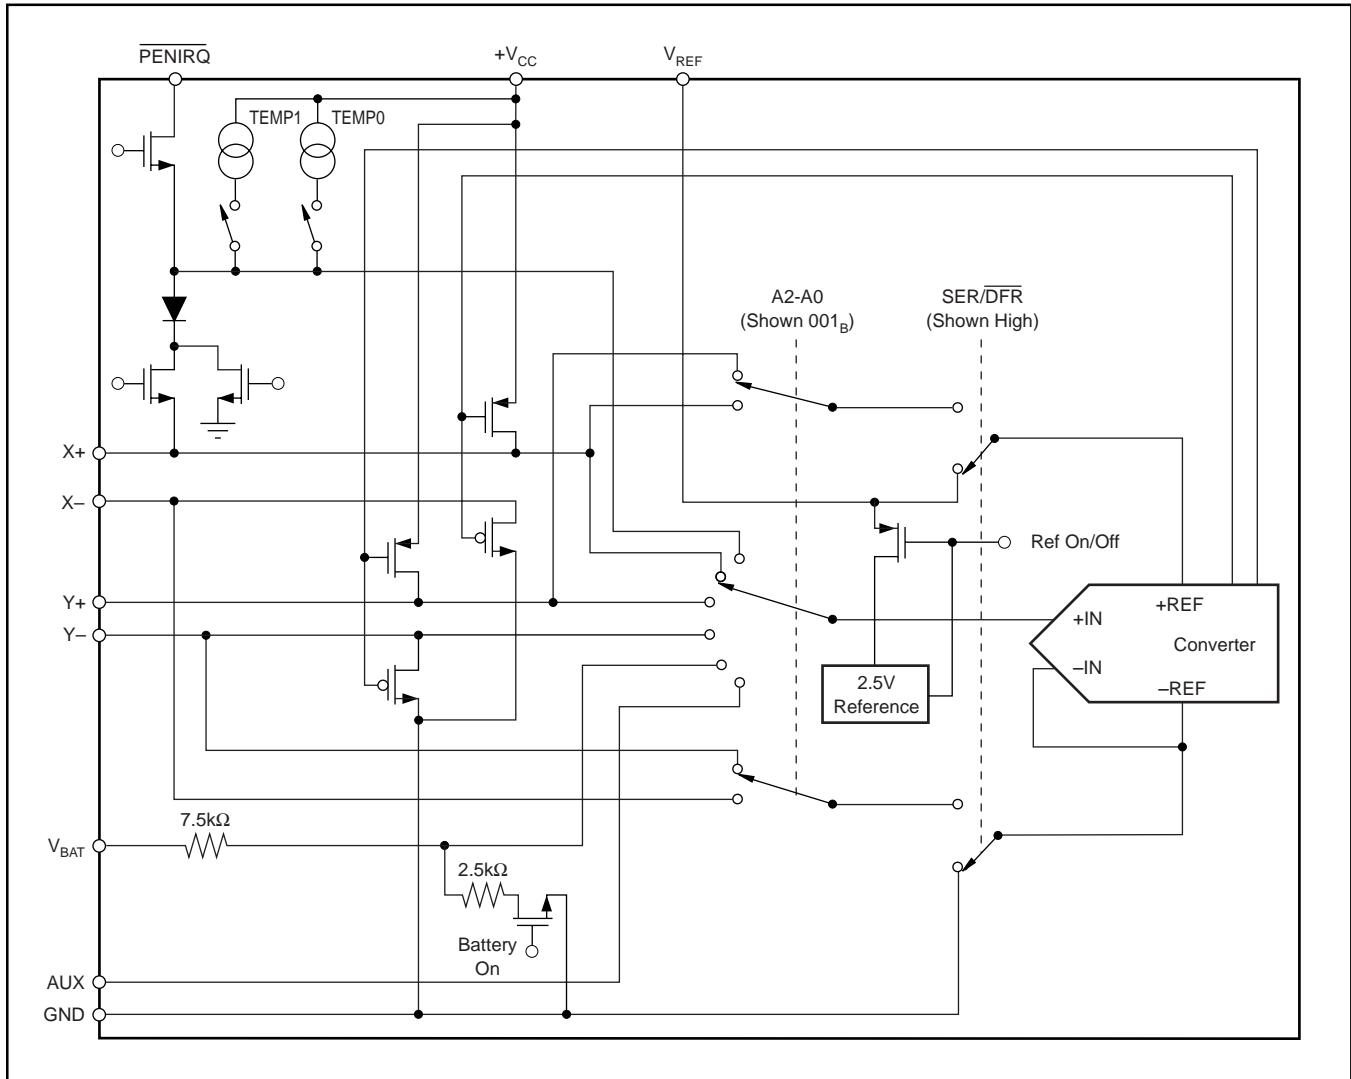

FIGURE 2. Simplified Diagram of Analog Input.
See Figure 2 for a block diagram of the input multiplexer on the ADS7846, the differential input of the ADC, and the differential reference of the converter. Table I and Table II show the relationship between the A2, A1, A0, and SER/DFR control bits and the configuration of the ADS7846. The control bits are provided serially via the DIN pin—see the Digital Interface section of this data sheet for more details.
When the converter enters the hold mode, the voltage difference between the  $+IN$  and  $-IN$  inputs (see Figure 2) is captured on the internal capacitor array. The input current into the analog inputs depends on the conversion rate of the device. During the sample period, the source must charge the internal sampling capacitor (typically 25pF). After the capacitor has been fully charged, there is no further input current. The rate of charge transfer from the analog source to the converter is a function of conversion rate.
The voltage difference between +REF and -REF (shown in Figure 2) sets the analog input range. The ADS7846 operates with a reference in the range of 1V to +VCC. There are several critical items concerning the reference input and its wide voltage range. As the reference voltage is reduced, the analog voltage weight of each digital output code is also reduced. This is often referred to as the LSB (least significant
**Addressing**—The next three bits (A2, A1, and A0) select the active input channel(s) of the input multiplexer (see Tables I, II, and Figure 2), touch screen drivers, and the reference inputs.
**SER/ $\overline{DFR}$** —The SER/ $\overline{DFR}$  bit controls the reference mode, either single-ended (high) or differential (low). The differential mode is also referred to as the ratiometric conversion mode and is preferred for X-Position, Y-Position, and Pressure-Touch measurements for optimum performance. The reference is derived from the voltage at the switch drivers, which is almost the same as the voltage to the touch screen. In this case a reference voltage is not needed, as the reference voltage to the ADC is the voltage across the touch screen. In the single-ended mode, the converter reference voltage is always the difference between the  $V_{REF}$  and GND pins (see Tables I and II, and Figures 2 through 5 for further information).